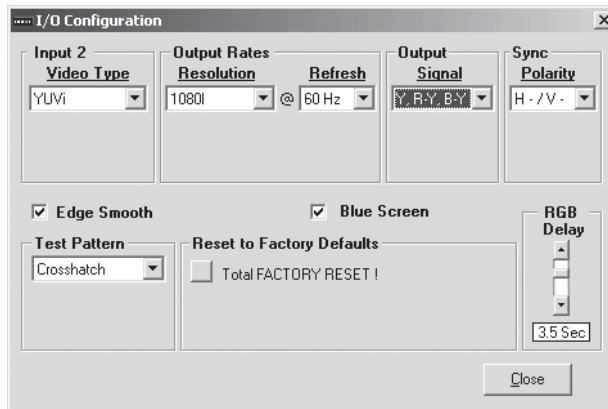

Figure 5-2 — Control program I/O configuration window
3. Click on the *I/O Configuration* button to configure the inputs in the I/O configuration window (figure 5-2).